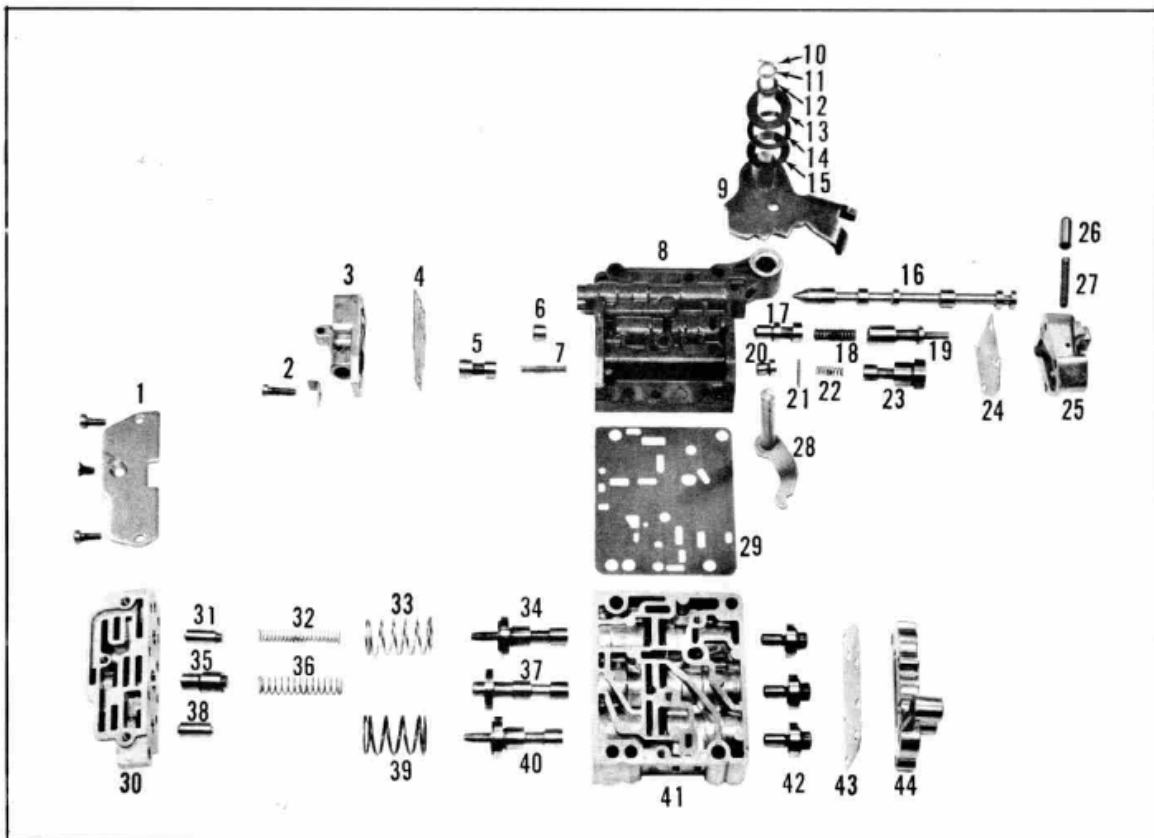

Figure 12
16. Remove the compensator valve (5), spring (7) and detent plug (6) from the outer valve body (8), Figure 12.
17. Remove the stop pin (21) that holds the compensator auxiliary plug (20) in place.
18. Remove the compensator auxiliary plug (20) by inserting a  $\frac{1}{8}$ " welding rod in hole in plug and use another small punch to push the plug from the outer body.